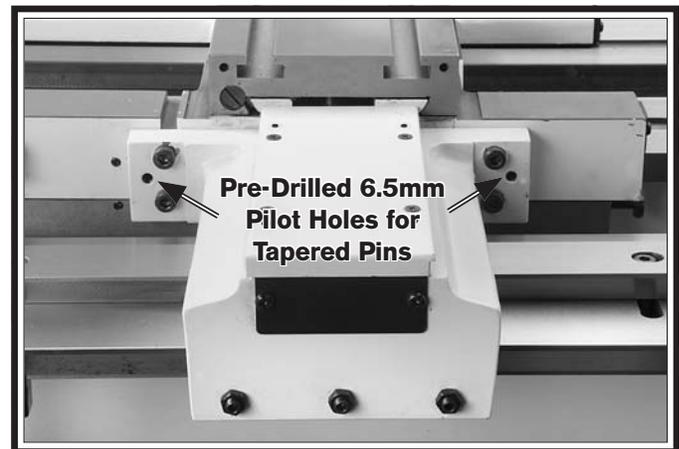

Figure 22. Roll pin installation.
37. Using the existing pilot holes in the taper attachment housing as guides (see **Figure 22**), drill out both holes with a $1/16$ " drill bit, and ream both holes with an industrial size #6 spiral pin reamer deep enough so the tapered pins fit flush. If you need to remove the tapered pins for any reason, the internal pin threads are a metric M6-1.